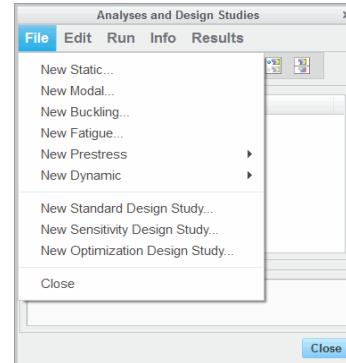
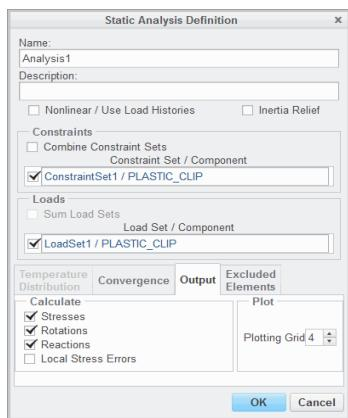

Figure 1 – Analyses and Design Studies Dialog Box
Figure 2 – Static Analysis Definition Dialog Box
- Select the type of analysis and assign a name – Access the Analyses and Design Studies dialog box and select the type of analysis, as shown in Figure 1. In the Static Analysis Definition dialog box, Figure 2, assign a meaningful name to the analysis. For better reference, enter a description. This description is printed into the Simulate engine's rpt-file.
- Select a constraint and load set – In the Static Analysis Definition dialog box, Figure 2, select a constraint set and load set from the list, and combine constraint sets or sum load sets if desired.
- Select a convergence method – When using MPA, enter convergence in %, define minimum and maximum polynomial degree, and select convergence criteria in the Static Analysis Definition dialog box, Figure 2.